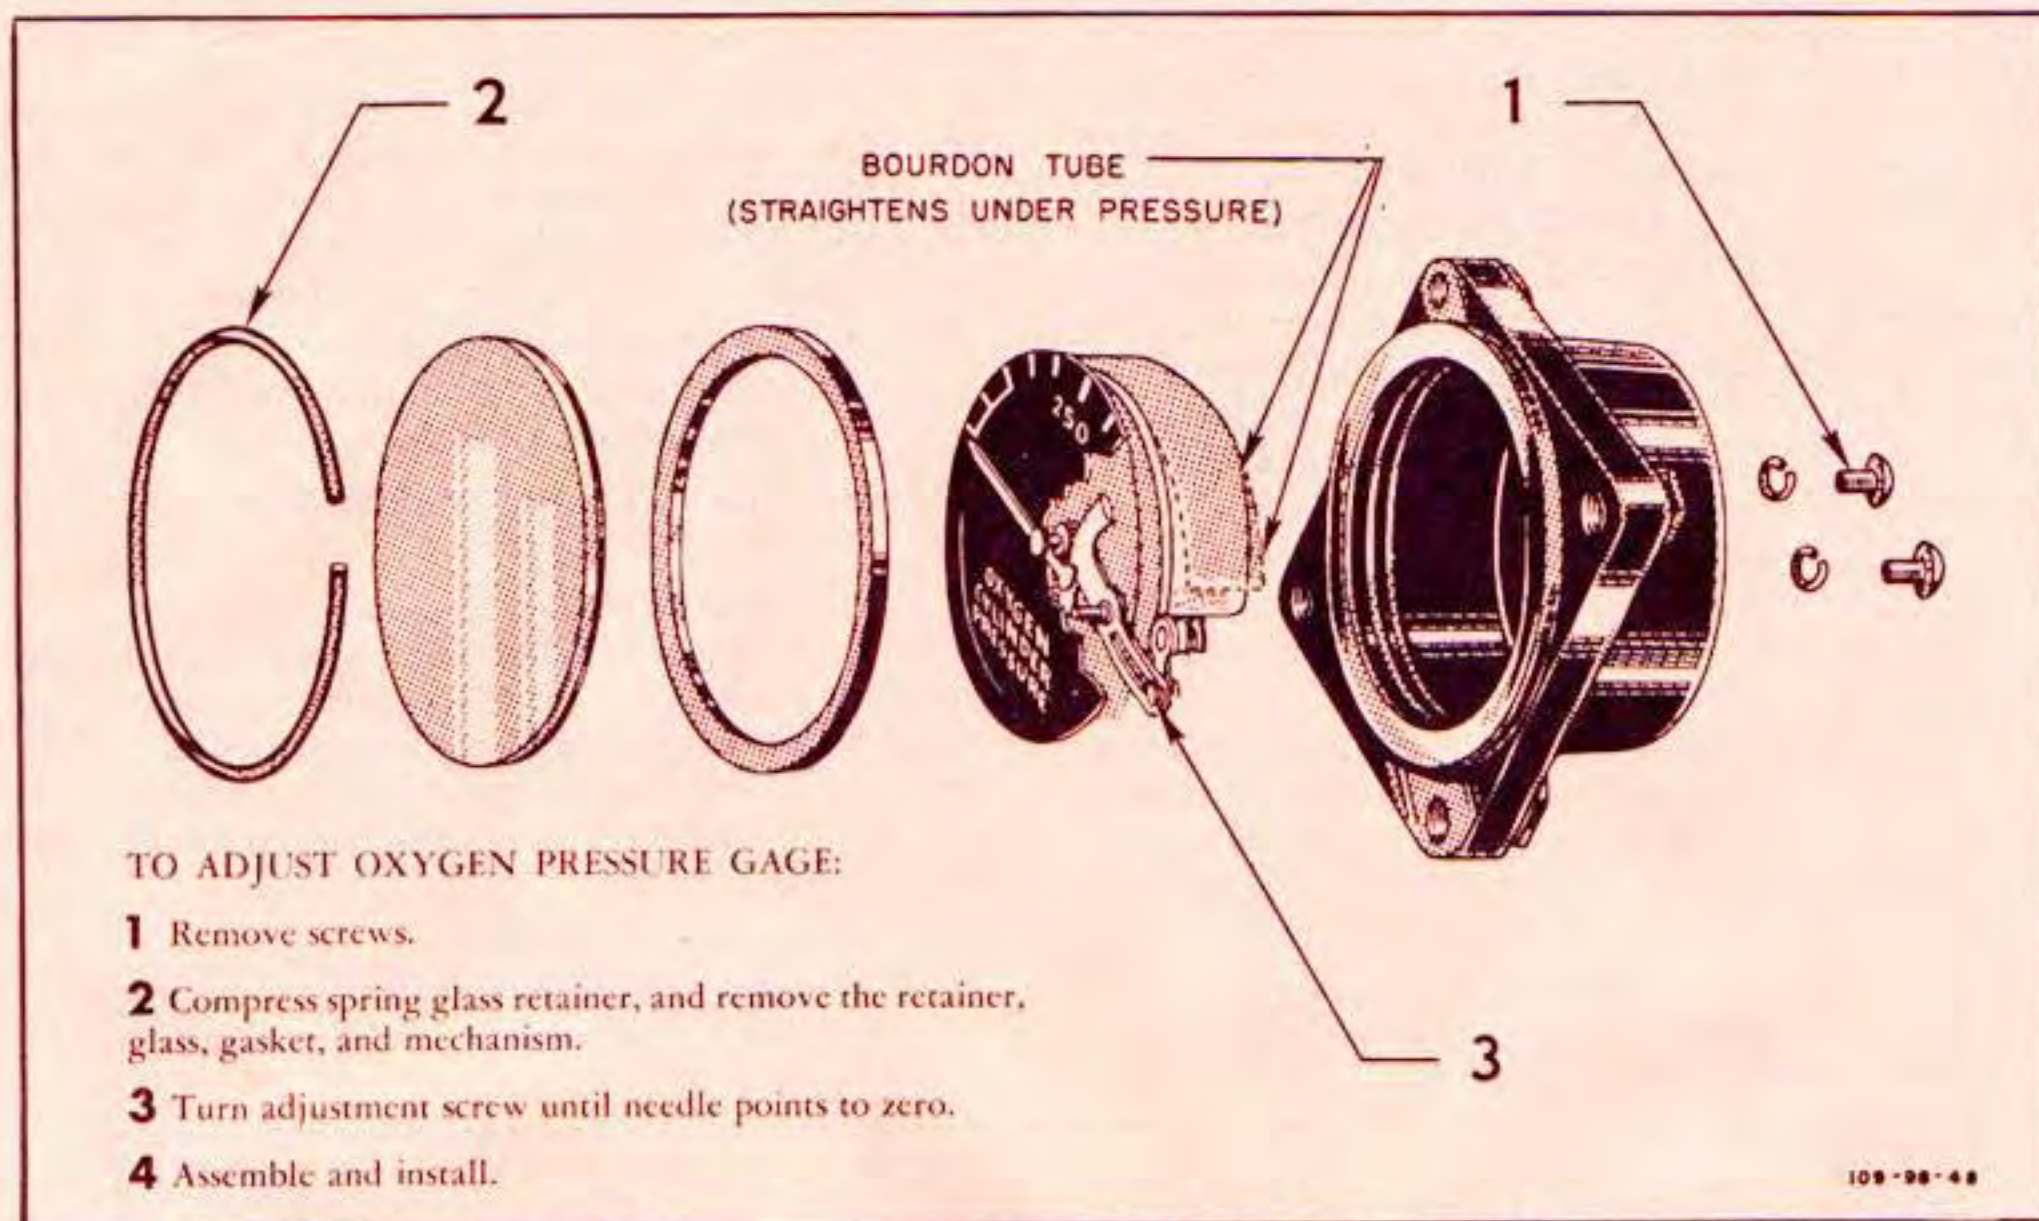

Figure 455—Oxygen Pressure Gage Adjustment
(1) DESCRIPTION.—An AN6021 gage, installed in the lower right section of the instrument panel, indicates the amount of oxygen in the cylinders. The dial is calibrated in 50-pound graduations from 0 to 500, and a spring-loaded needle, linked to a curved bourdon tube, indicates pounds per square inch pressure.
(2) FINAL TEST AND ADJUSTMENT BEFORE INSTALLATION. (See figure 455.)